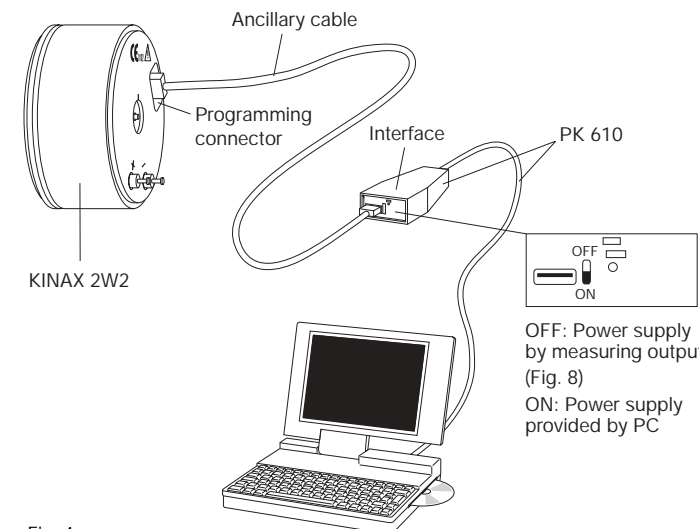

Fig. 4
Angular position transmitters of the KINAX 2W2 range do not require a mechanical zero position mark (however, this is made if required by the customer). After mounting, the transmitter can be moved to any position and configured using the 2W2 software. A power supply connection to the KINAX 2W2 is not required in order to use the 2W2 configuration software (Fig. 4; AUX switch on the PK 610 in the ON position).
- Mount the angular position transmitter and mechanically connect it to the object to be measured. Connect the KINAX 2W2 to the programming device according to Fig. 4. Start the 2W2 configuration software. If necessary, configure the device with the required measuring range data.